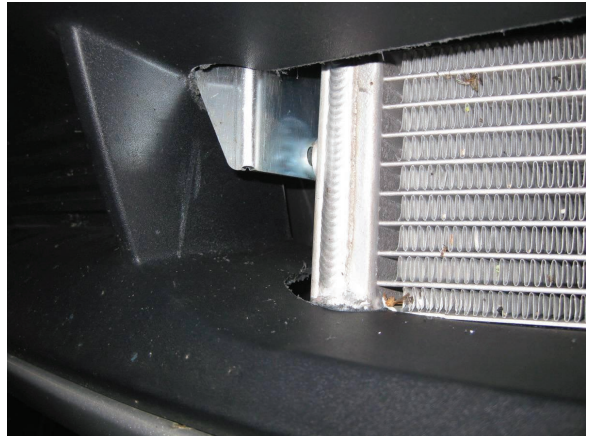

Fig. 8.1-3a
2. Trial fit bumper and check for interference against intercooler. Additional removal of material may be required to clear the intercooler end tanks and brackets (See Fig 8.1-3a, b).